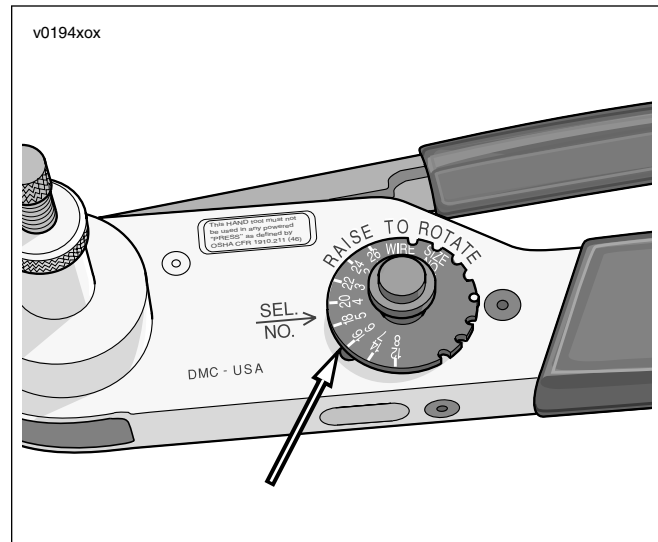

Figure 5-15. Selector Knob
3. See Figure 5-15. Raise selector knob and rotate until selected wire size stamped on wheel is aligned with "SEL. NO." arrow.